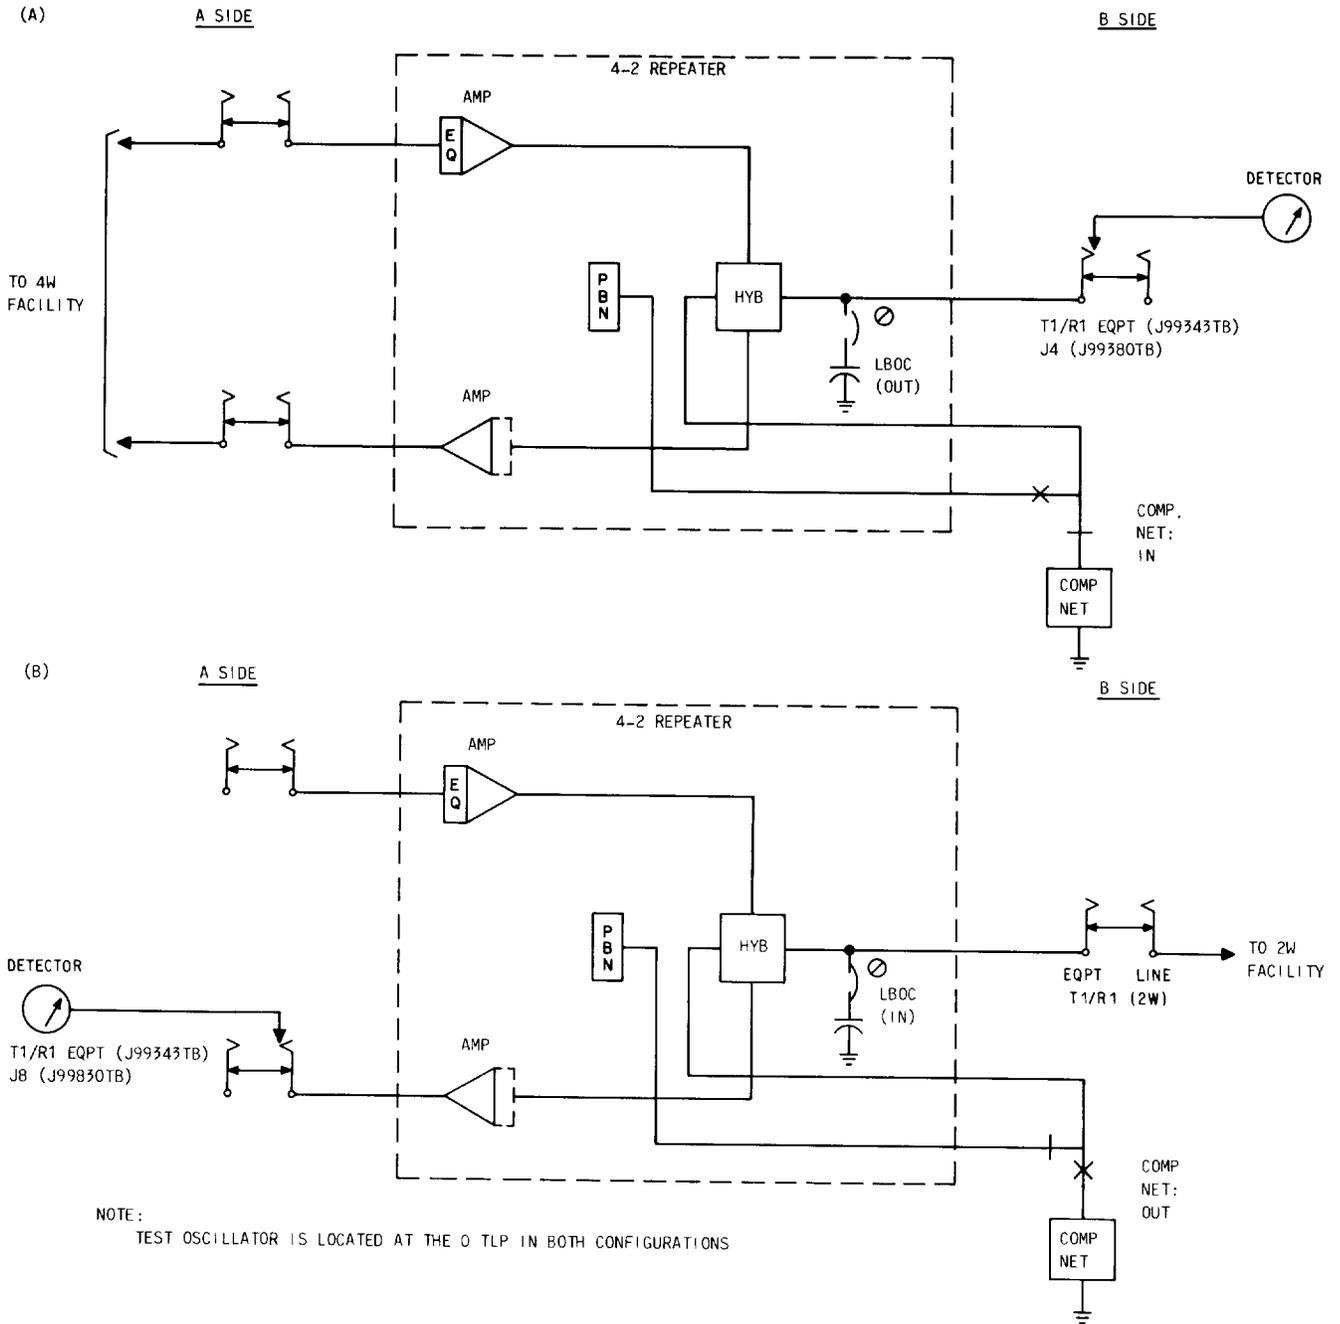
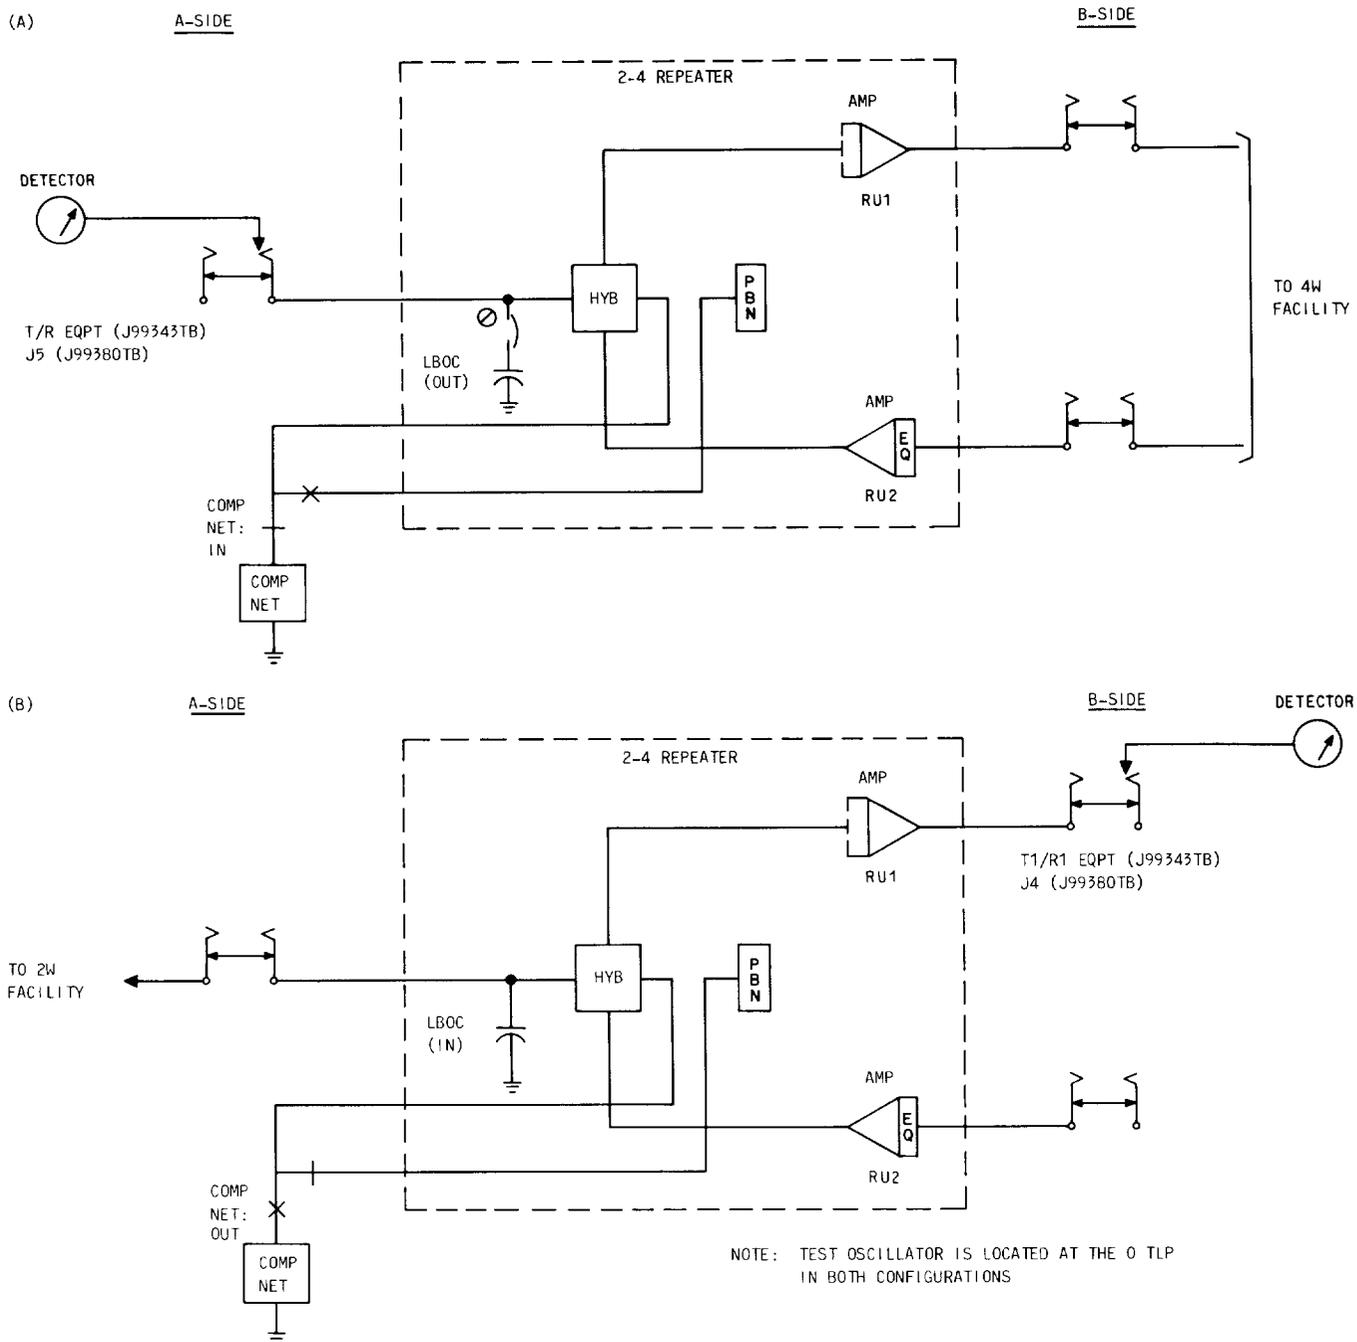

Fig. 17—Test Configuration for Adjusting the 4-2 Repeaters for a Specified Output Level
Fig. 18—Test Configuration for Adjusting the 2-4 Repeater for a Specified Output Level
4.15 The test configurations for the 4-2 repeaters are shown in Fig. 17 and the configurations for the 2-4 intermediate repeaters are shown in Fig. 18. The figures show the test connection for each direction of transmission.
- 4 Connect the detector to the test extender as shown in Fig. 17(A).
- 9 Connect the detector to the proper A-side jack as shown in Fig. 17(B).
- 4 Connect the detector to the test extender as shown in Fig. 18(A).
9	Connect the detector to the proper A-side jack (output of RU1) as shown in Fig. 18(B).